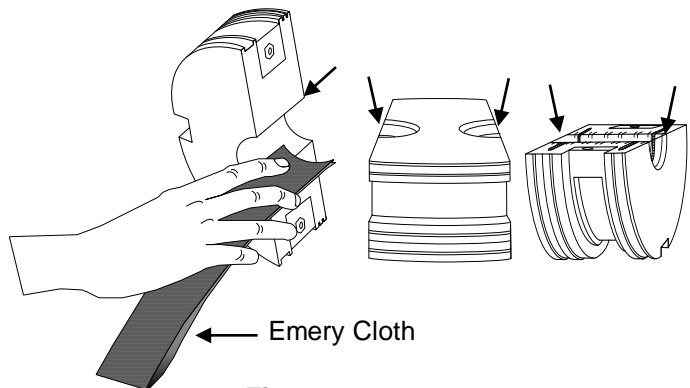

Figure 10
10.4 Use Emery Cloth to lightly scuff edges of drilled hole and remove any burrs on edges and corners only. **See Fig. 10.**